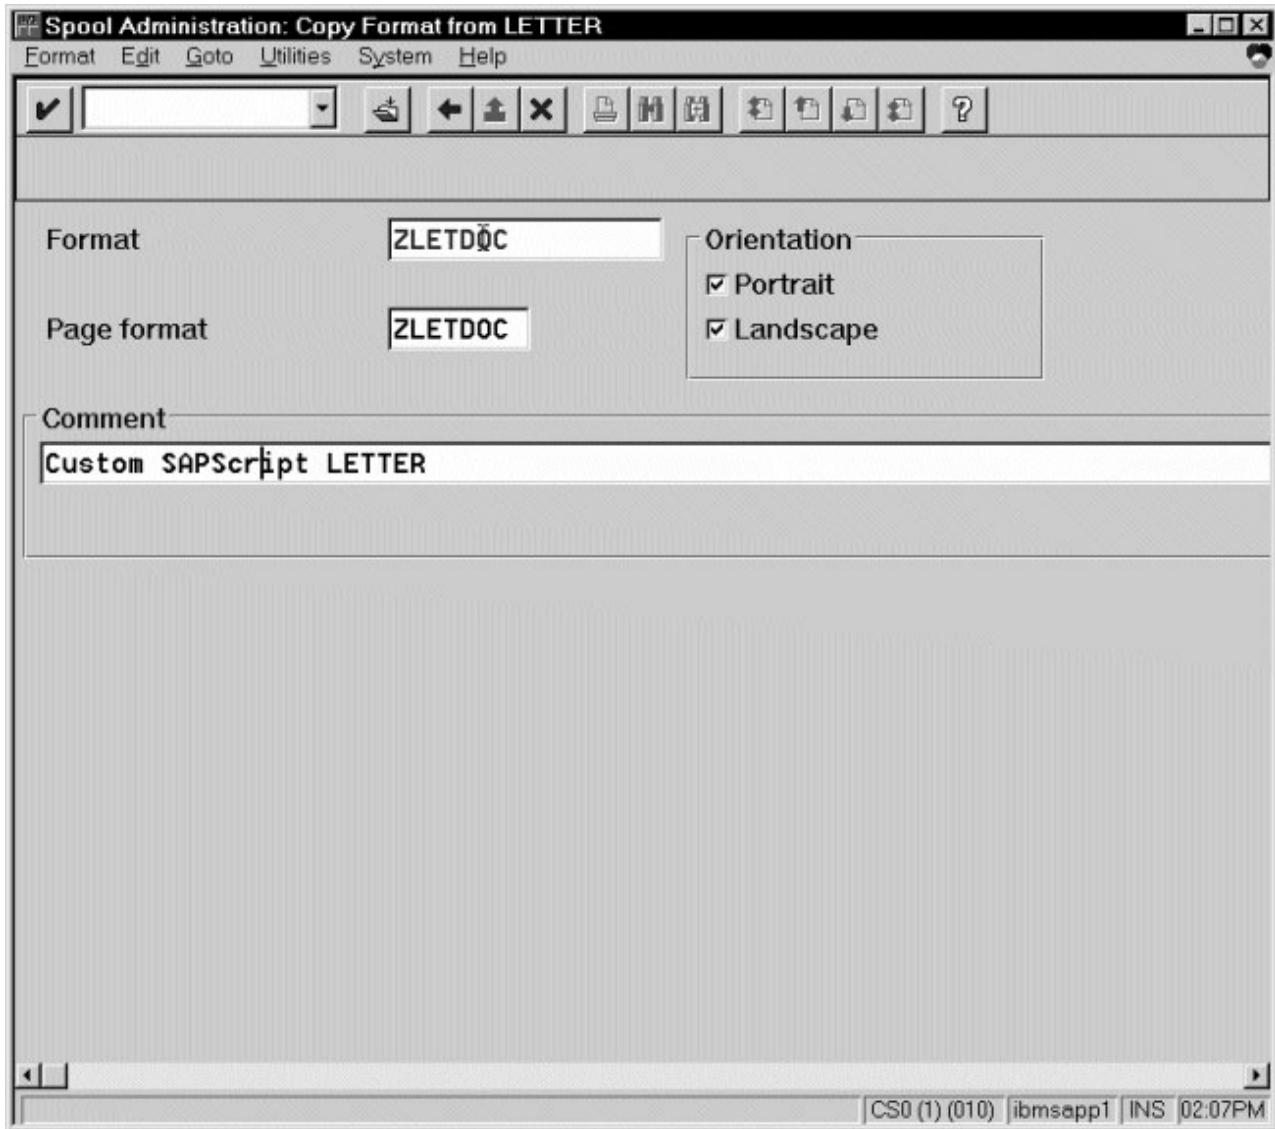

Figure 11. Spool Administration: Copy Format from LETTER window
9. From the Spool Administration: Copy Format from LETTER window, fill in the values as displayed in Figure 11 on page 98: